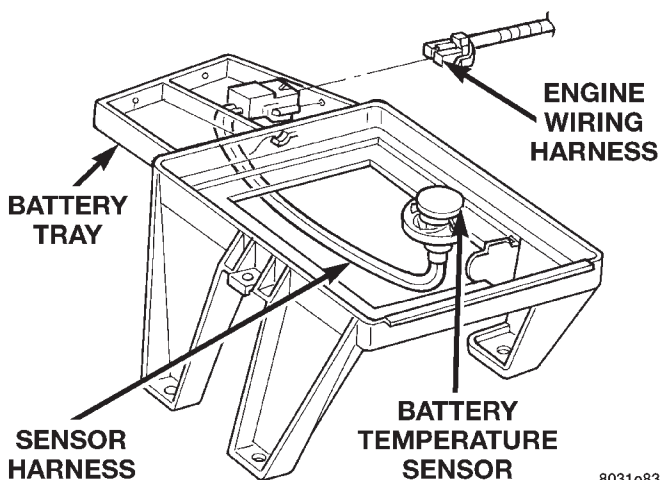

Fig. 1 Battery Temperature Sensor
The sensor is located under the vehicle battery, and is attached to the battery tray (Fig. 1).
(1) The sensor is located under the battery and is attached to the battery tray (Fig. 1). A two-wire pigtail harness is attached directly to the sensor. The opposite end of this harness connects the sensor to the engine wiring harness.
(2) Disconnect the two-wire pigtail harness from the engine harness.
(3) Attach ohmmeter leads to the wire terminals of the pigtail harness.
(4) At room temperature of 25° C (75–80° F), an ohmmeter reading of 9 to 11K ohms should be observed.
(5) If reading is above or below the specification, replace the sensor.
(6) Refer to the Removal and Installation section for procedures.